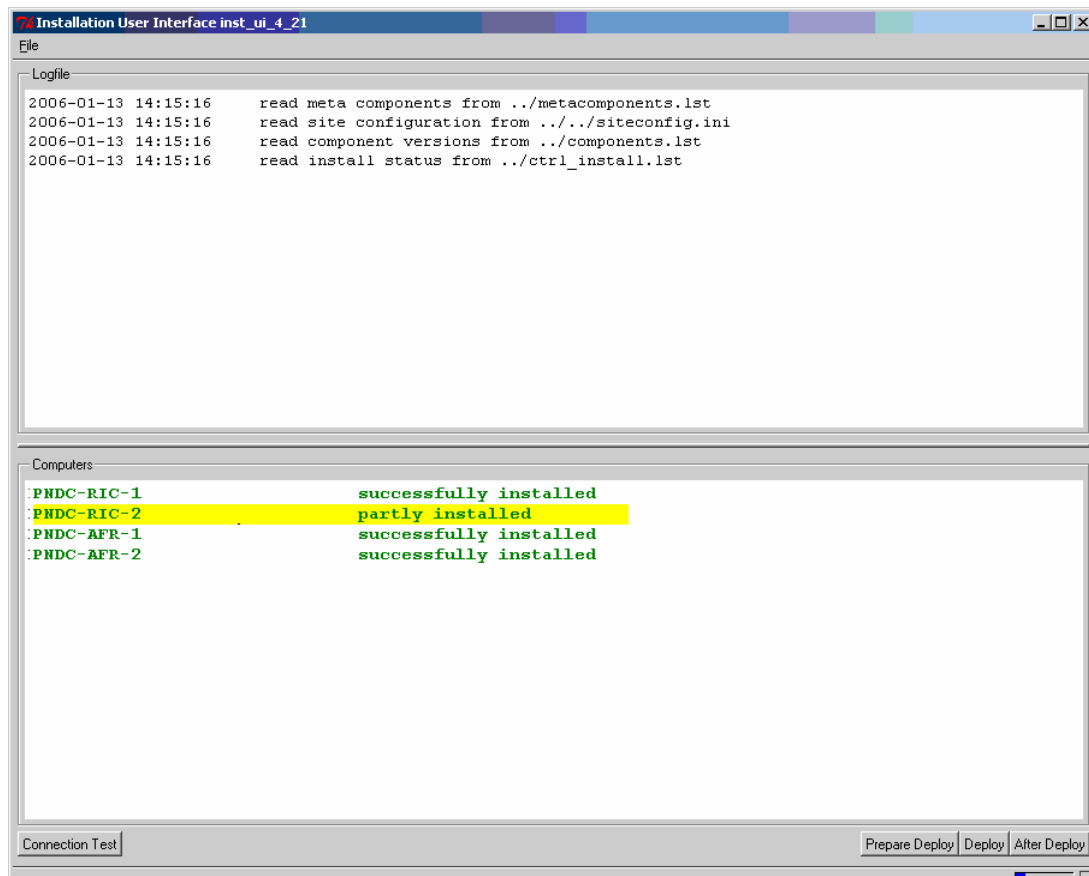

Figure 1-231. Install UI Showing RIC-2 "Hanging"
3. Start the Install UI from desktop icon "Install User Interface" (if not already started). The example in Figure 1-231 assumes the RIC-2 hangs in yellow state and should be reinstalled.